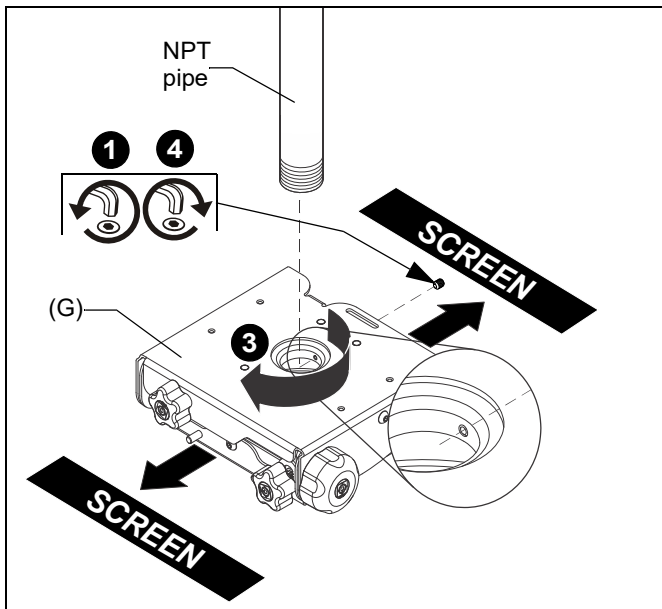

Figure 1
1. Loosen and remove the set screw which ships installed in the VCT mount (G). (See Figure 1)
3. Thread the VCT mount (G) onto the existing 1-1/2" NPT pipe until tight with a minimum of four threads engaged. (See Figure 1)
NOTE: Ensure that side of VCT mount with two knobs is located parallel to, or opposite of, the screen. (See Figure 1)
4. Tighten the set screw into the VCT mount threaded collar to prevent movement of the VCT. (See Figure 1)